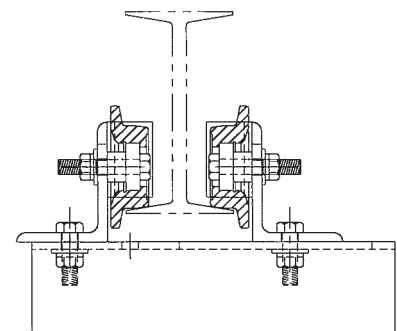

Figure 4 — Bottom Running
1. **BOTTOM RUNNING CONFIGURATION.** Place the adjustable end truck on one of the parallel I-beams. Wheels are pre-installed in the bottom running position. Loosen the 1/2" bolt located in the slot at the end of the truck. Move the two (2) end truck halves so that there is 1/8" clearance between the wheel flange and the beam flange on each side. Tighten the 1/2" bolt to 85 foot-pounds torque. Repeat procedure for the other end of the truck. **The 1/2" bolt must be tight or the truck might come off the beam.** Repeat the above procedure on the second end truck included with your kit (See Figure 4).